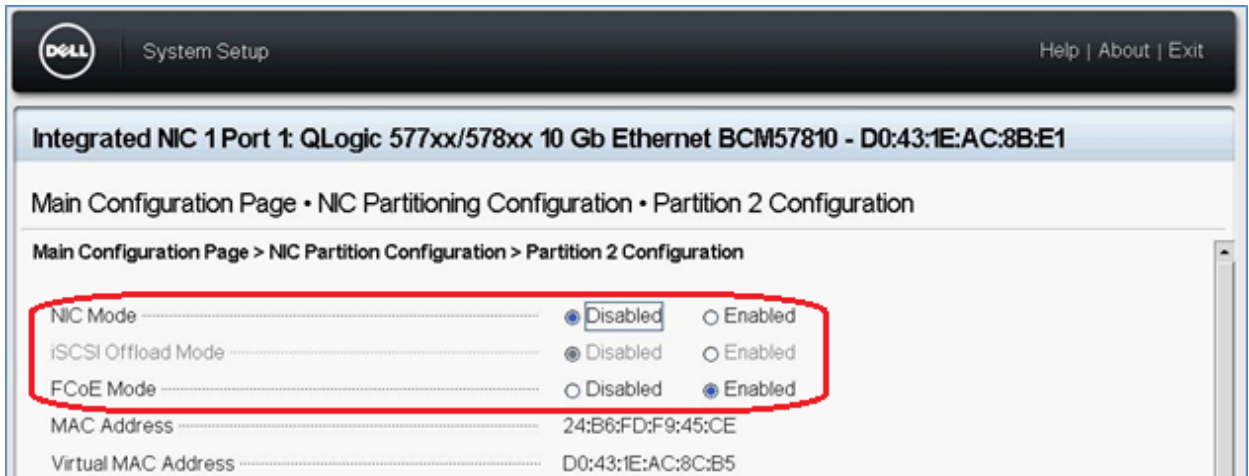

Figure 13 System Setup – Partition 2 configured for FCoE
- c. Set **FCoE Mode** to **Enabled** (screen shown in Figure 13) and click **Back**.